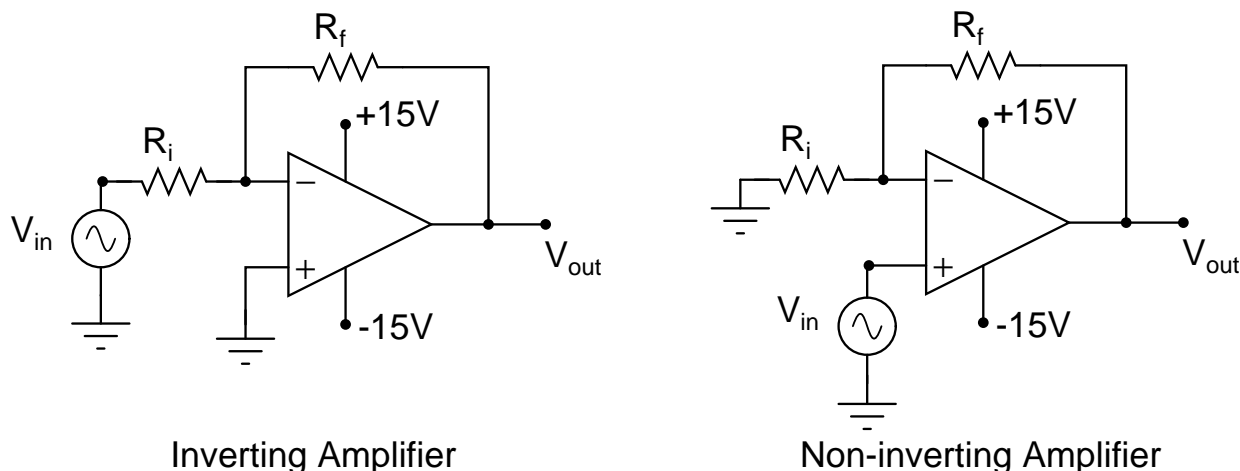

Figure 9: Basic op-amp configurations. In this example, the amplifier is powered by the dual supply ± 15 V
2. **Inverting amplifier:** This is a basic config shown in Figure 9, left. The output signal is inverted (π out of phase) relative to the input and scaled by a factor that depends on the resistor values:
3. **Non-inverting amplifier:** This is a basic config shown in Figure 9, right. The output signal is in phase with the input. The input-output relation is given by: